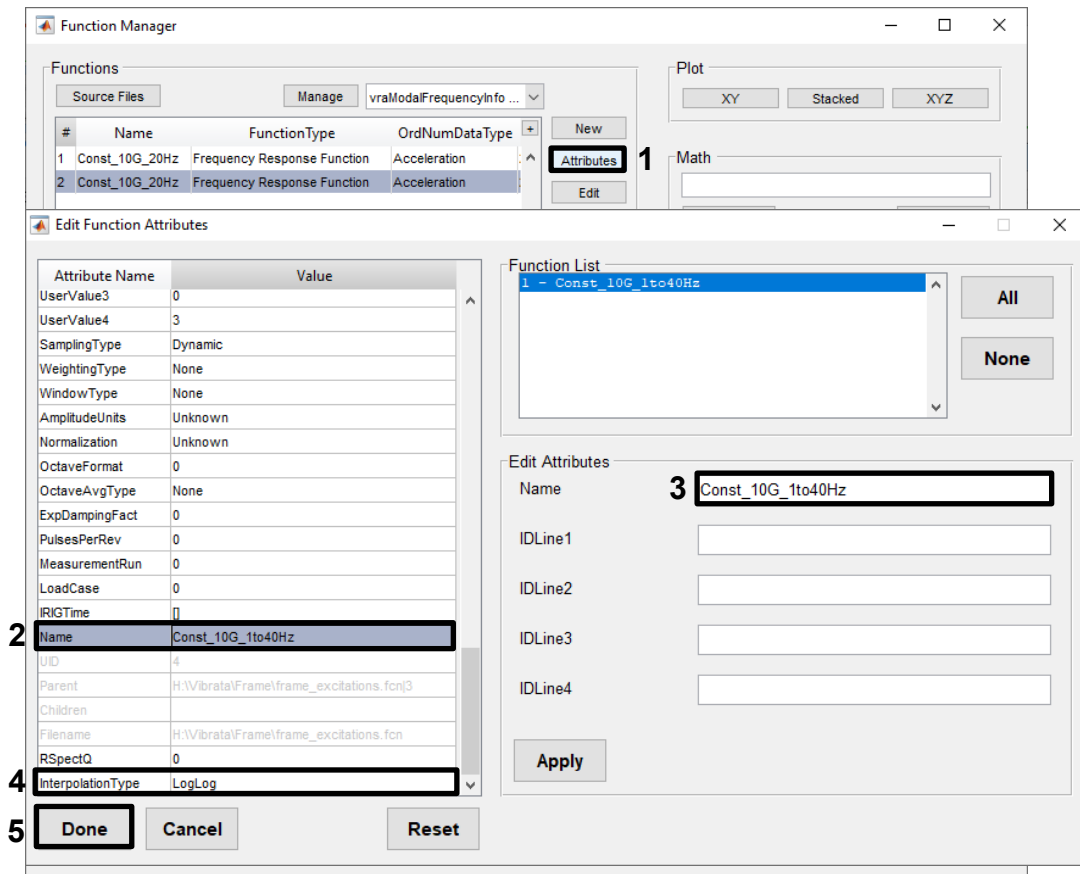

Figure 4-28. Edit the new function's name and make it use log-log interpolation.
- c. With the new function still selected, click the **Attributes** button to open the *Edit Function Attributes* dialog; change the interpolation method to *LogLog* and its name to "Const_10g_1to40Hz" (Figure 4-28). Click **Done** to close the dialog and save the changes.